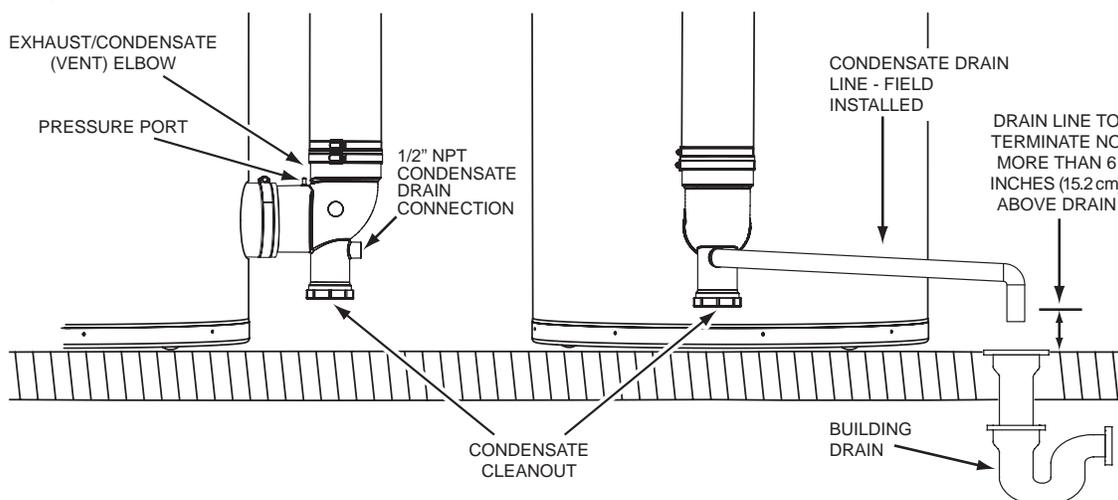

Figure 42. Condensate Drain Installation
5. Install a 1/2 inch PVC condensate drain line between condensate drain connection on the Exhaust/Condensate Elbow and a suitable building drain. The condensate line must slope to an open drain. See *Figure 42*.
6. Terminate the condensate drain piping with an elbow above the drain. Ensure that any discharge will exit the condensate drain line no more than 6 inches (15.2 cm) above a suitable building drain, or external to the building. See *Figure 42*.
7. Ensure the condensate drain line is not elevated above the condensate drain connection on the Exhaust/Condensate Elbow. See *Figure 42*.